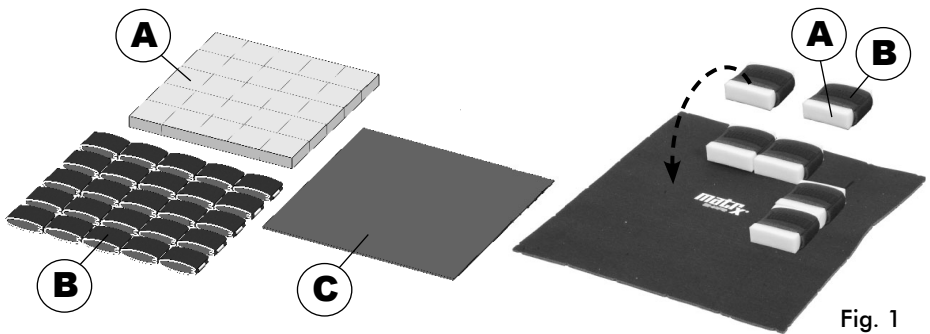

Fig. 1
The Matrix® SHAPE INSERT is a kit consisting of a fabric interface pad (C), a set of polyurethane foam blocks (A), and a corresponding set of stretchable fabric loops (B). The foam blocks are designed to fit inside the individual fabric loops. The foam blocks can be attached to the fabric interface pad (via hook & loop fasteners) in any desired configuration (see Fig. 1), in order to meet the needs of the end user.